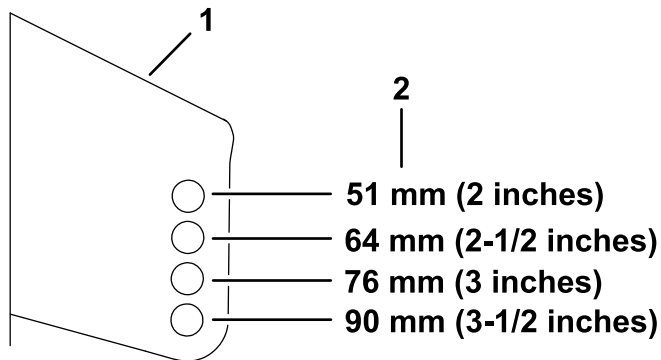

Figure 29
5. Place the rollers in 1 of the positions shown in Figure 29.